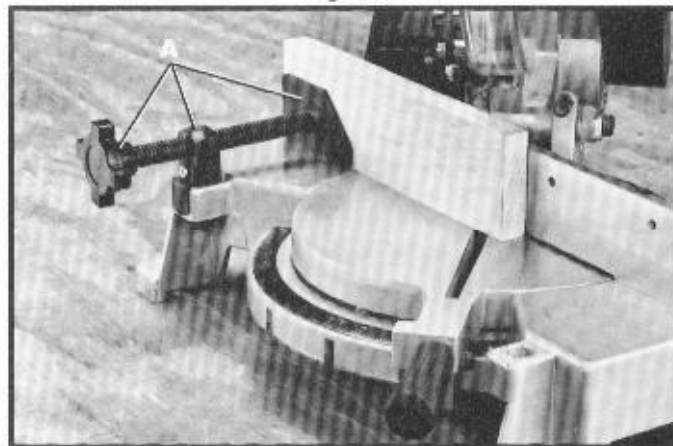

Fig. 34
An ideal accessory for use with your miter box is the 36-221 work clamp, shown at (A) Fig. 34. Two holes are provided in the base of the miter box enabling you to use the clamp (A) on either the right or left hand side of the saw blade. **WARNING:** Keep hands out of path of saw blade. If the workpiece you are cutting would cause your hand to be within 4 inches of the saw blade, the workpiece should be clamped in place before making cut.